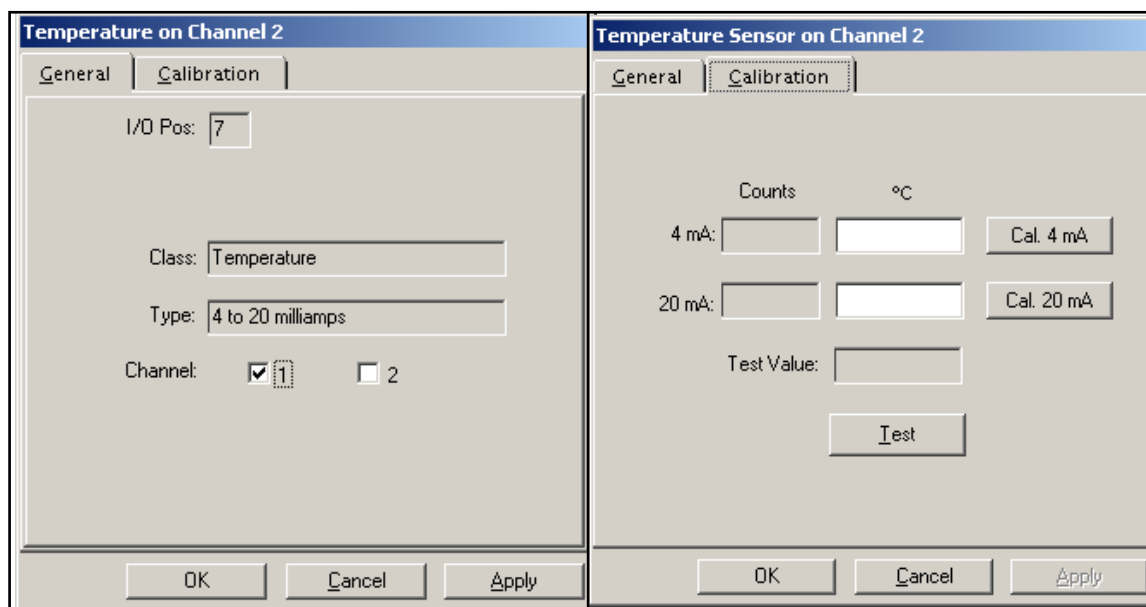

Figure 57: PanaView Temperature Assignments (two separate displays)
5. When a display similar to that shown in *Figure 57* below appears, make whatever selections and settings are appropriate under both displays (**General** and **Calibration**). Then, click on **OK** or **Apply** and the display returns to the list of selections.